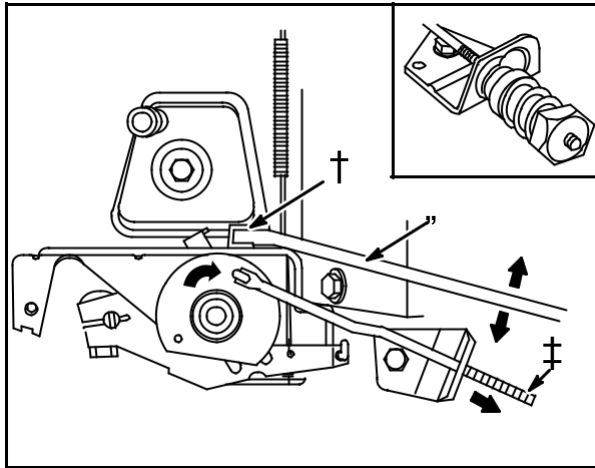

Fig. 40
Disengage the adjustable fixed speed control nut (Inset, **Fig. 40**).
With engine running, pull control rod (7) out until swivel is against stop. Hold in this position, **Fig. 40**.
Re-install control nut, spring and retainer. Turn nut clockwise until threads on control rod are visible from end of nut, inset **Fig. 40**.